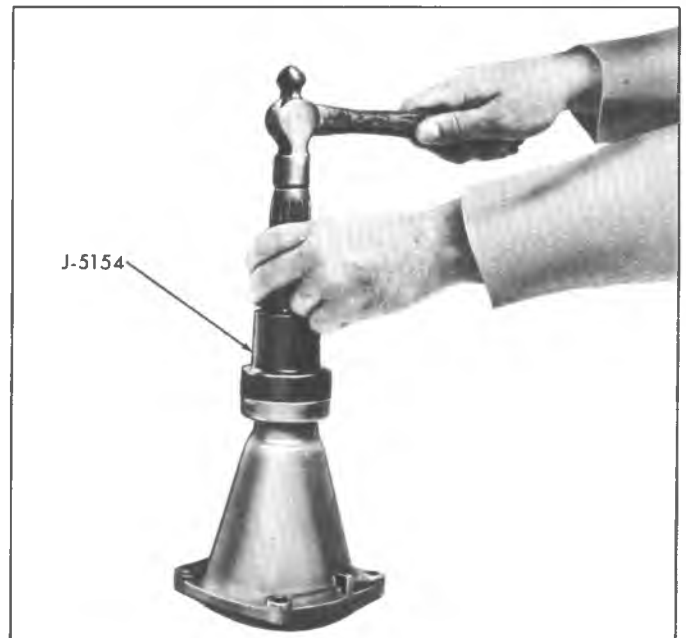

Fig. 106M--Installing Extension Housing Seal
6. If necessary, install a new extension housing seal, using seal installer J-5154 or J-21426 (fig. 106M).